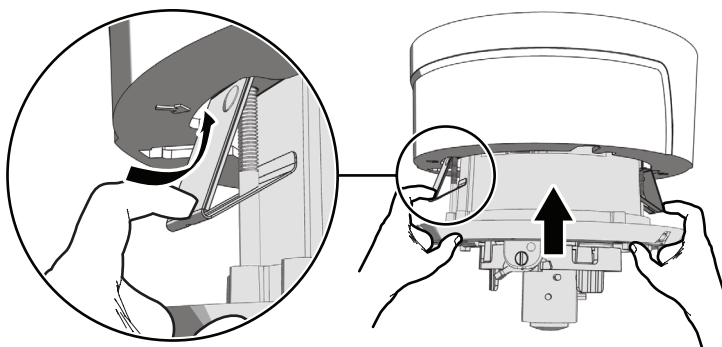

Figure 7. Surface Installation
- (1) Install the back box in the surface mount ring by compressing the spring clips and pushing the back box through the hole (refer to Figure 7).
- (2) Tighten the machine screws completely to secure the back box to the ceiling.